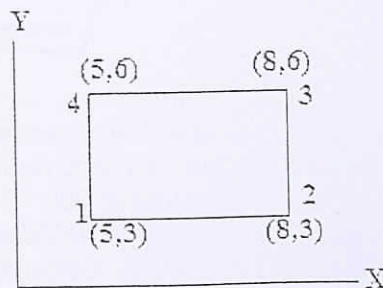

Fig 14a
14. a) (i) Determine three points on the 56° contour line for a rectangular element shown in Fig 14a $T_1=40^\circ$, $T_2=65^\circ$, $T_3=60^\circ$ and $T_4=52^\circ$ (10 Marks)